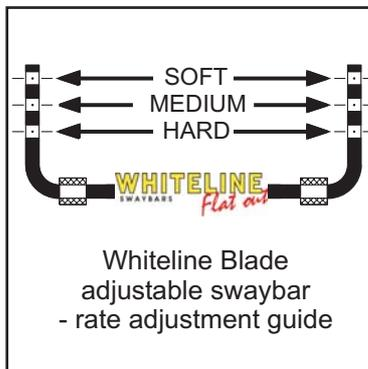
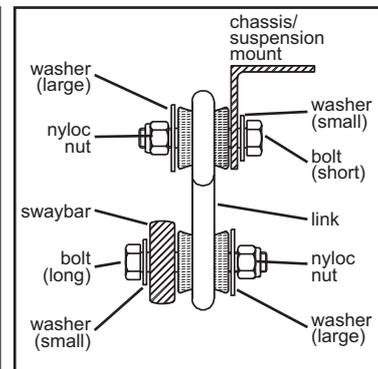

Figure 1.
Figure 2.
7. Using remaining hardware and new links, connect the swaybar to the axle bracket, as shown in photo 4 and figure 2. For adjustable type swaybars, refer to figure 1 for swaybar adjustment guide.